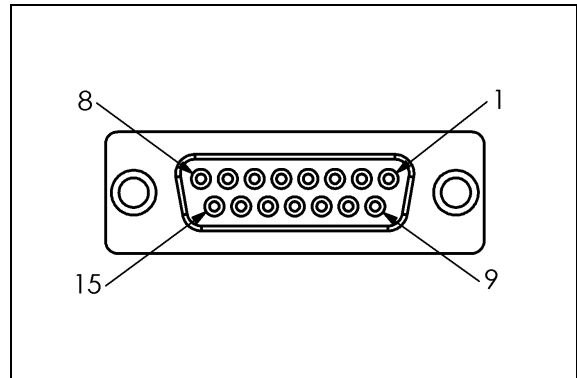

Fig. II.10 15 pin receptacle connector for Edge Finder
**Pin layout for Electronic Edge Finder (See Fig. II.10 for pinout)**